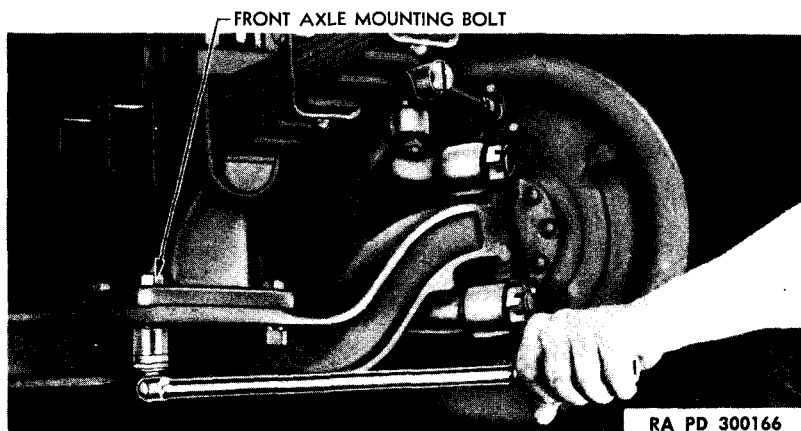

Figure 76--Tightening Front Axle Mounting Bolt
a. **Remove Axle.** Jack up front end of vehicle on both sides, using one jack under each frame side member, or a hoist, if available. Remove both front wheels (par. 139). Remove cotter pin from front end of steering drag link and take out threaded plug. Tap steering drag link out of left-hand steering spindle. Disconnect front wheel flexible brake lines at junction plate on frame. Hold fittings with two wrenches to avoid twisting lines. Remove the four nuts, bolts, and lock washers that hold the axle I-beam to the bottom of the mounting bracket on each side (fig. 76), holding the bolt head with one wrench, while turning the nut with the other. **CAUTION:** *Support axle while removing the last bolt and nut on each side. Lower axle carefully to the ground.*
a. **Install Axle.** Raise axle into position under mounting brackets and install four bolts, lock washers and nuts on each side (fig. 76). Tighten nuts and bolts securely, using one wrench on bolt head, and another on nut. Connect front wheel brake lines at junction plate on frame. Hold fittings with two wrenches to avoid twisting lines. Bleed all brake lines (par. 120). Position steering drag link over ball stud in left-hand steering knuckle arm, tapping into place with hammer, if necessary. Install adjusting plug in drag link and tighten securely. Turn nut back to nearest cotter pin slot and insert cotter pin, bending back with pliers. Install wheels on hubs and install and tighten six mounting cap screws alternately in rotation. Lower vehicle to ground and remove jacks or hoist. Check front wheel alinement (par. 104).